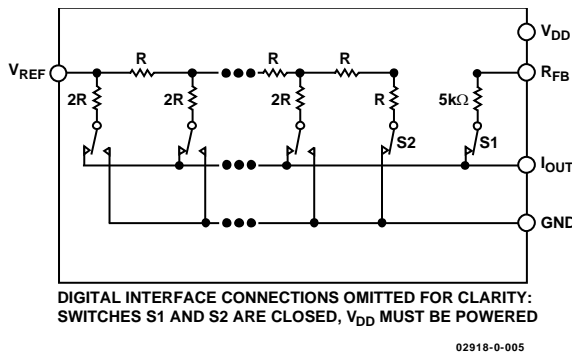

Figure 17. Equivalent R-2R DAC Circuit
The DAC architecture uses a current-steering R-2R ladder design. Figure 17 shows the typical equivalent DAC. The DAC contains a matching feedback resistor for use with an external I-to-V converter amplifier. The RFB pin is connected to the output of the external amplifier. The IOUT terminal is connected to the inverting input of the external amplifier. These DACs are designed to operate with either negative or positive reference voltages. The VDD power pin is used only by the logic to drive the DAC switches and off. Note that a matching switch is used in series with the internal 5 kΩ feedback resistor. If users attempt to measure the RFB value, power must be applied to VDD to achieve continuity. The VREF input voltage and the digital data (D) loaded into the corresponding DAC register, according to Equation 1 and Equation 2, determine the DAC output voltage.